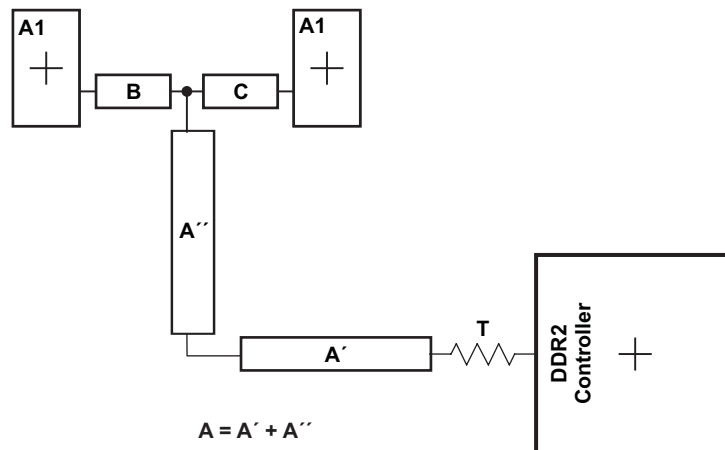

Figure 9-10. CK and ADDR_CTRL Routing and Topology
Figure 9-10 shows the topology of the routing for the CK and ADDR_CTRL net classes. The route is a balanced T as it is intended that the length of segments B and C be equal. In addition, the length of A ($A' + A''$) should be maximized.
- (1) The length of segment $A = A' + A''$ as shown in Figure 9-10.
- (2) Center-to-center spacing is allowed to fall to minimum (w) for up to 500 mils of routed length to accommodate BGA escape and routing congestion.
- (3) CACLM is the longest Manhattan distance of the CK and ADDR_CTRL net classes.